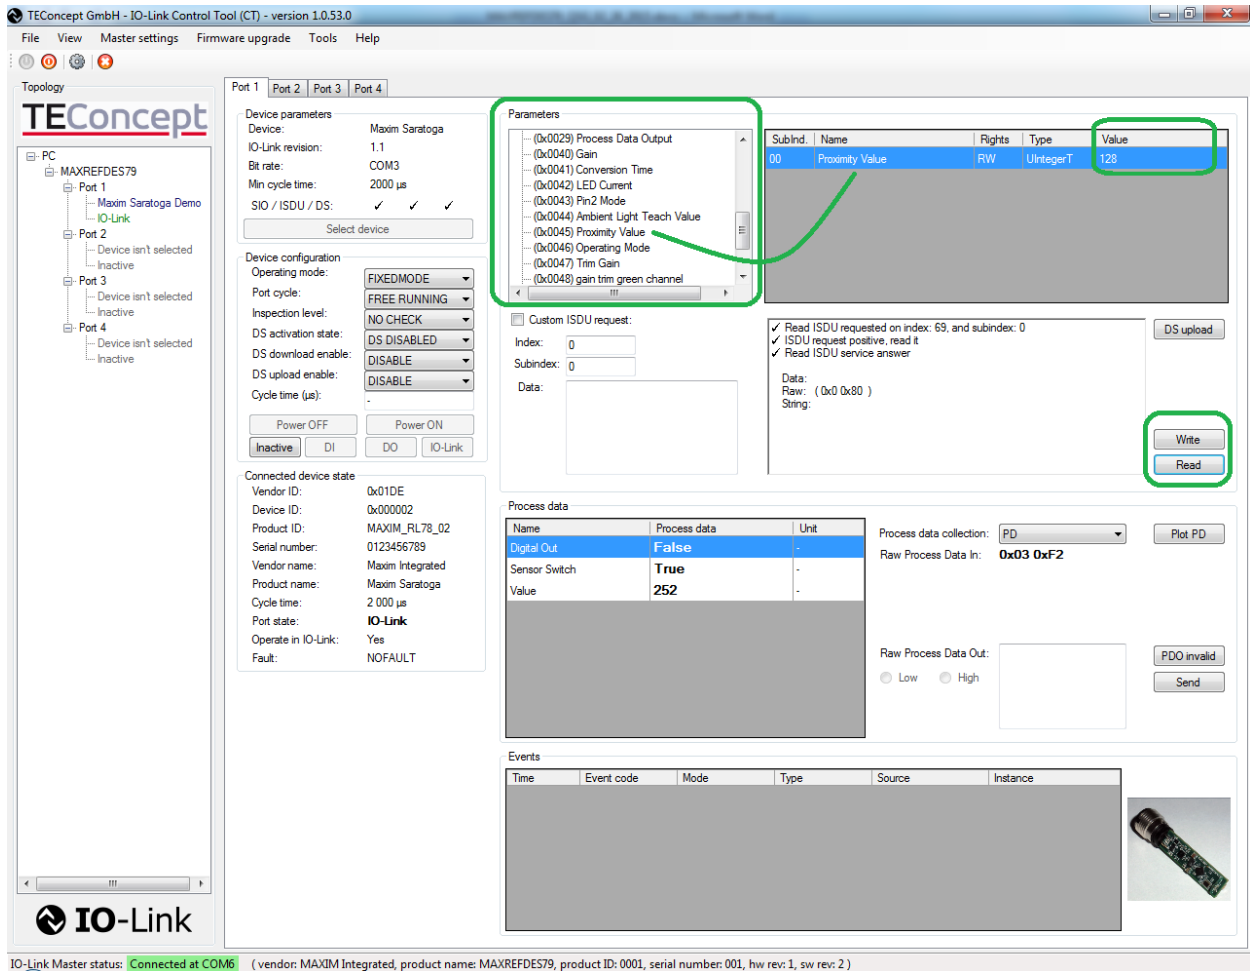

Figure 11. Read and write to parameters by using the Read and Write buttons.
- Read and write to parameters by selecting a parameter in the **Parameters** box and then use the **Read** button to read the parameter. The value gets displayed in the **Value** field circled in Figure 11. Also, when writing to a parameter, first edit the value in the **Value** field using the mouse/keyboard and then press the **Write** button. Verify by pressing the **Read** button. See Figure 11.